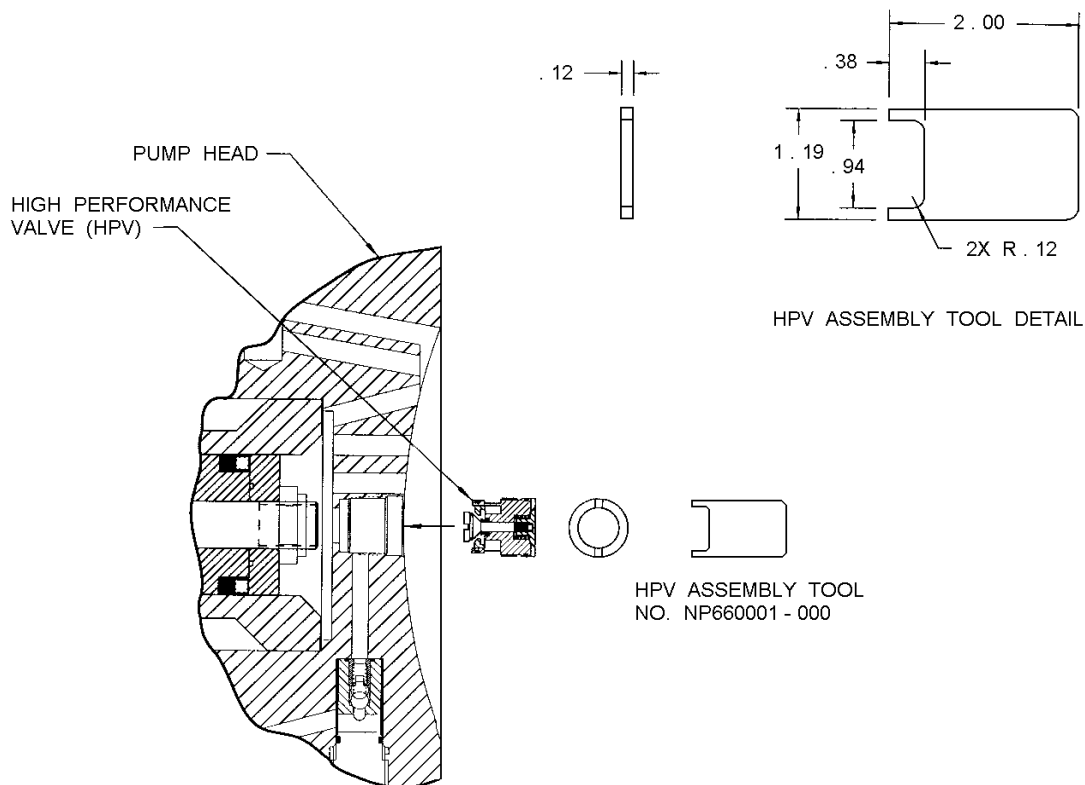

Figure 16
*PULSA* 9490 pumps High Performance Valves (refer to **Figure 16**) are factory preset and require no maintenance provided the hydraulic oil remains clean. The check valve in series with the HPV includes a screen to trap contaminants (refer to **Figure 18**) and should be removed and cleaned with each change of the hydraulic oil as indicated below. Should the HPV require removal for cleaning or replacement follow the procedure below.